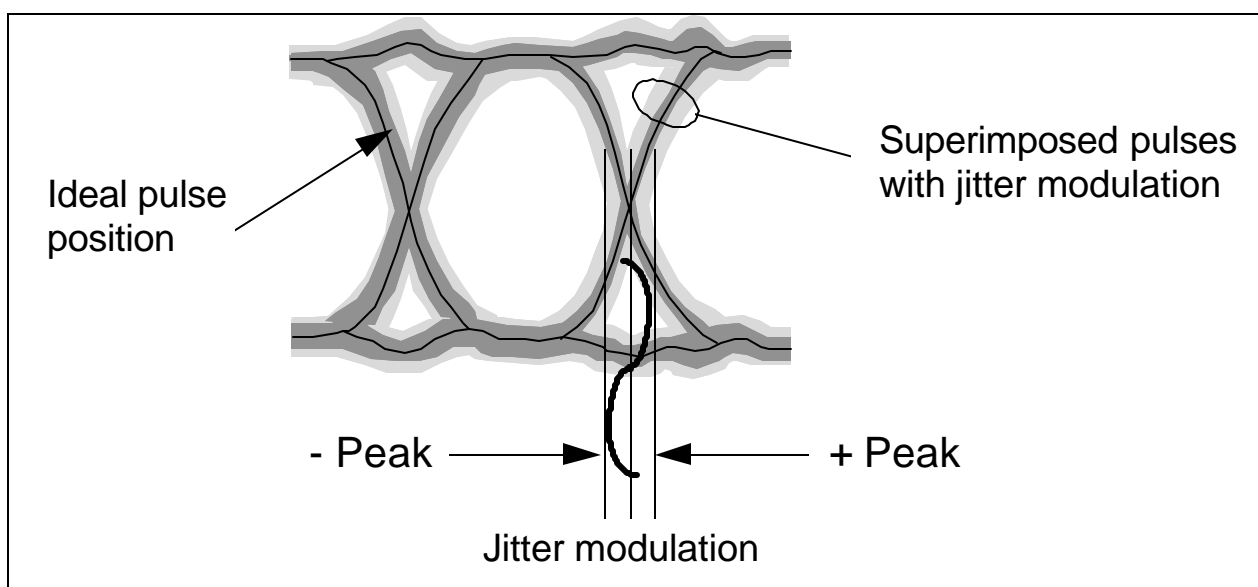
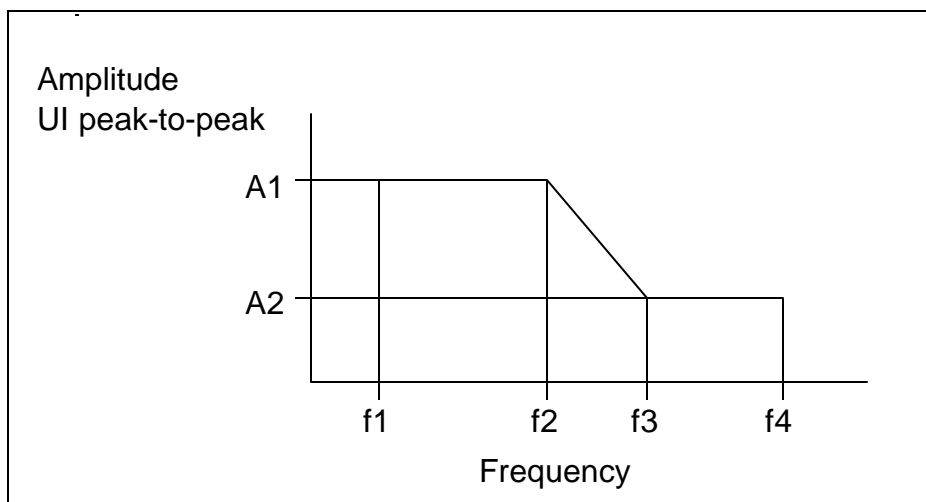

Figure 4. Viewed on an oscilloscope synchronized to the received data, phase error, or jitter, q_e shows up as a widening of the recovered clock's waveform.
Figure 5. The range of jitter frequencies and amplitudes that a BERT should generate.
Then with Equation (11) we can find BER as a function of SNR. This is plotted in Figure 4. In Figure 4a the BER axis is a log scale. In Figure 4b the BER axis has a specially distorted scale so the plot appears as a straight line. This will help in determining whether noise is Gaussian, and it will help in extrapolating data. Suppose a system has a SNR of 18 dB. According to Figure 4, the corresponding bit error ratio is 10^{-16} . At a baud of 1 Gbit/s, this would yield an error only once every 4 months on average. To get an estimate of this error rate in a reasonable time, testing with stress is necessary.
Figure 4. Bit-Error-Rate (BER) is plotted here as a function of the signal-to-noise ratio (SNR), where SNR is S/N_{rms} in decibels (electrical), S is the distance from the signal (1 or 0) to the decision threshold and N_{rms} is the rms value of the Gaussian noise introduced by the first receiver state (a). In (b), the log scale was distorted, so the plot is a straight line.
SNR is also 18 dB, and from Figure 4 we find $\text{BER} = 10^{-16}$ (see point at Attenuation = 0 in Figure 5). As the Attenuation is increased to 6 dB, then SNR is reduced to $18 - 6 = 12$ dB. According to Figure 4, this corresponds to $\text{BER} = 3.5 \times 10^{-5}$ (see point at Attenuation = 6 dB in Figure 5). The complete plot of
BER vs. Attenuation appears as a straight line because the BER scale is again distorted. The line here is for the case $\text{SNR}_0 = 18$ dB. For other values of SNR_0 , the plot would fall parallel to the line in Figure 5. Remember that we are talking about electrical attenuation here; 1 dB of optical attenuation is worth 2 dB of electrical attenuation.
Figure 5. BER is plotted as function of electrical-signal attenuation for the case of a system with $\text{BER}=10^{-6}$ for no attenuation. That is, the SNR_0 for no attenuation is 18 dB. Then, SNR with attenuation is 18 dB minus attenuation, and BER follows from Figure 4.
It isn't practical to plot a curve such as that in Figure 5; it would take too long to plot the points for low BER. But if the noise is known to be Gaussian and the BER is found to be 3.5×10^{-5} for 6 dB of attenuation, then the BER can be inferred to be 10^{-16} for no attenuation. It is actually better to plot *two* points for two attenuations and extrapolate to zero attenuation. An example will show how this extrapolation is done.